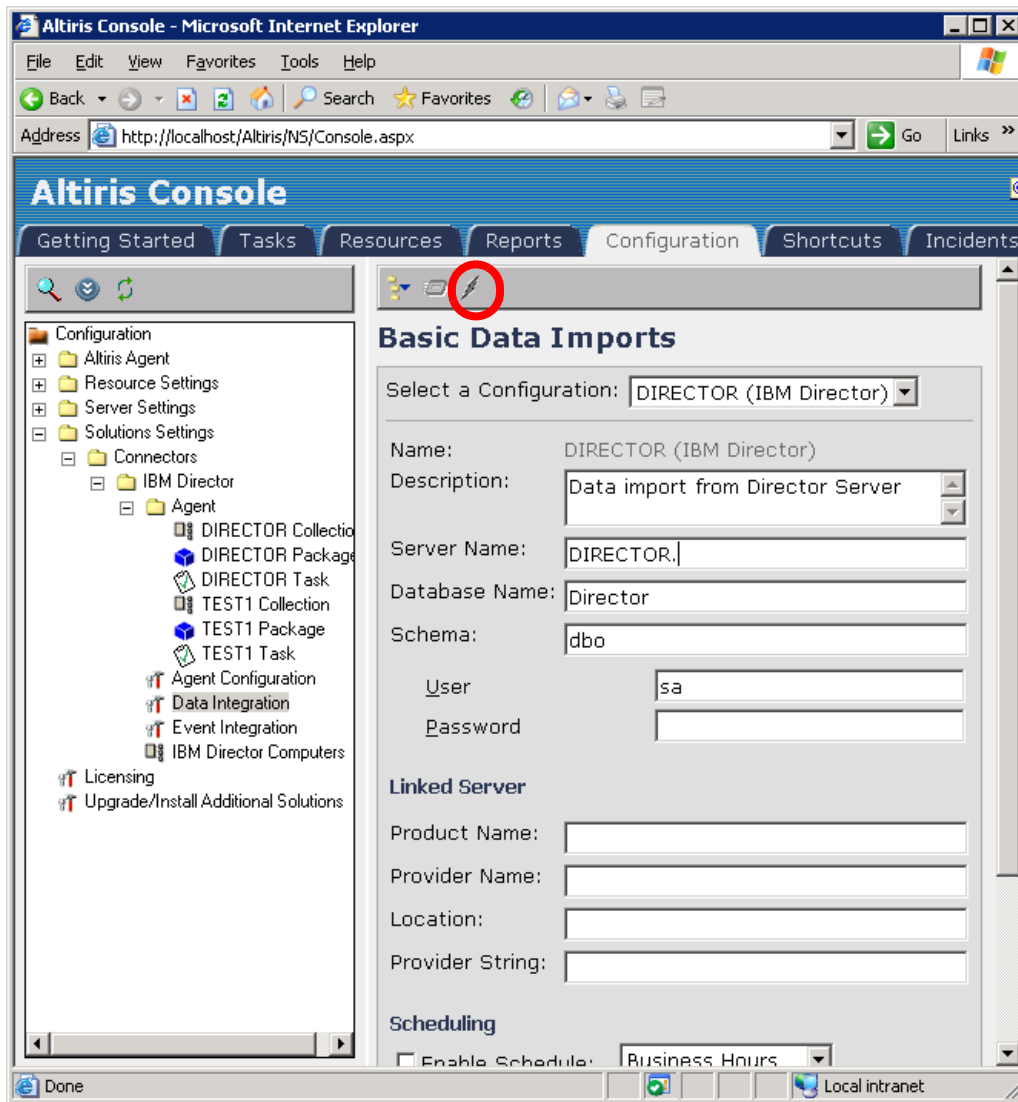

Figure 8-28 The Basic Data Imports window with the Test configuration button highlighted
11. Click the **Test configuration** icon (see Figure 8-28 on page 284) on the toolbar to test the configuration and then scroll to the bottom of the page to view any informational messages. If the test is unsuccessful, an error message will be displayed.